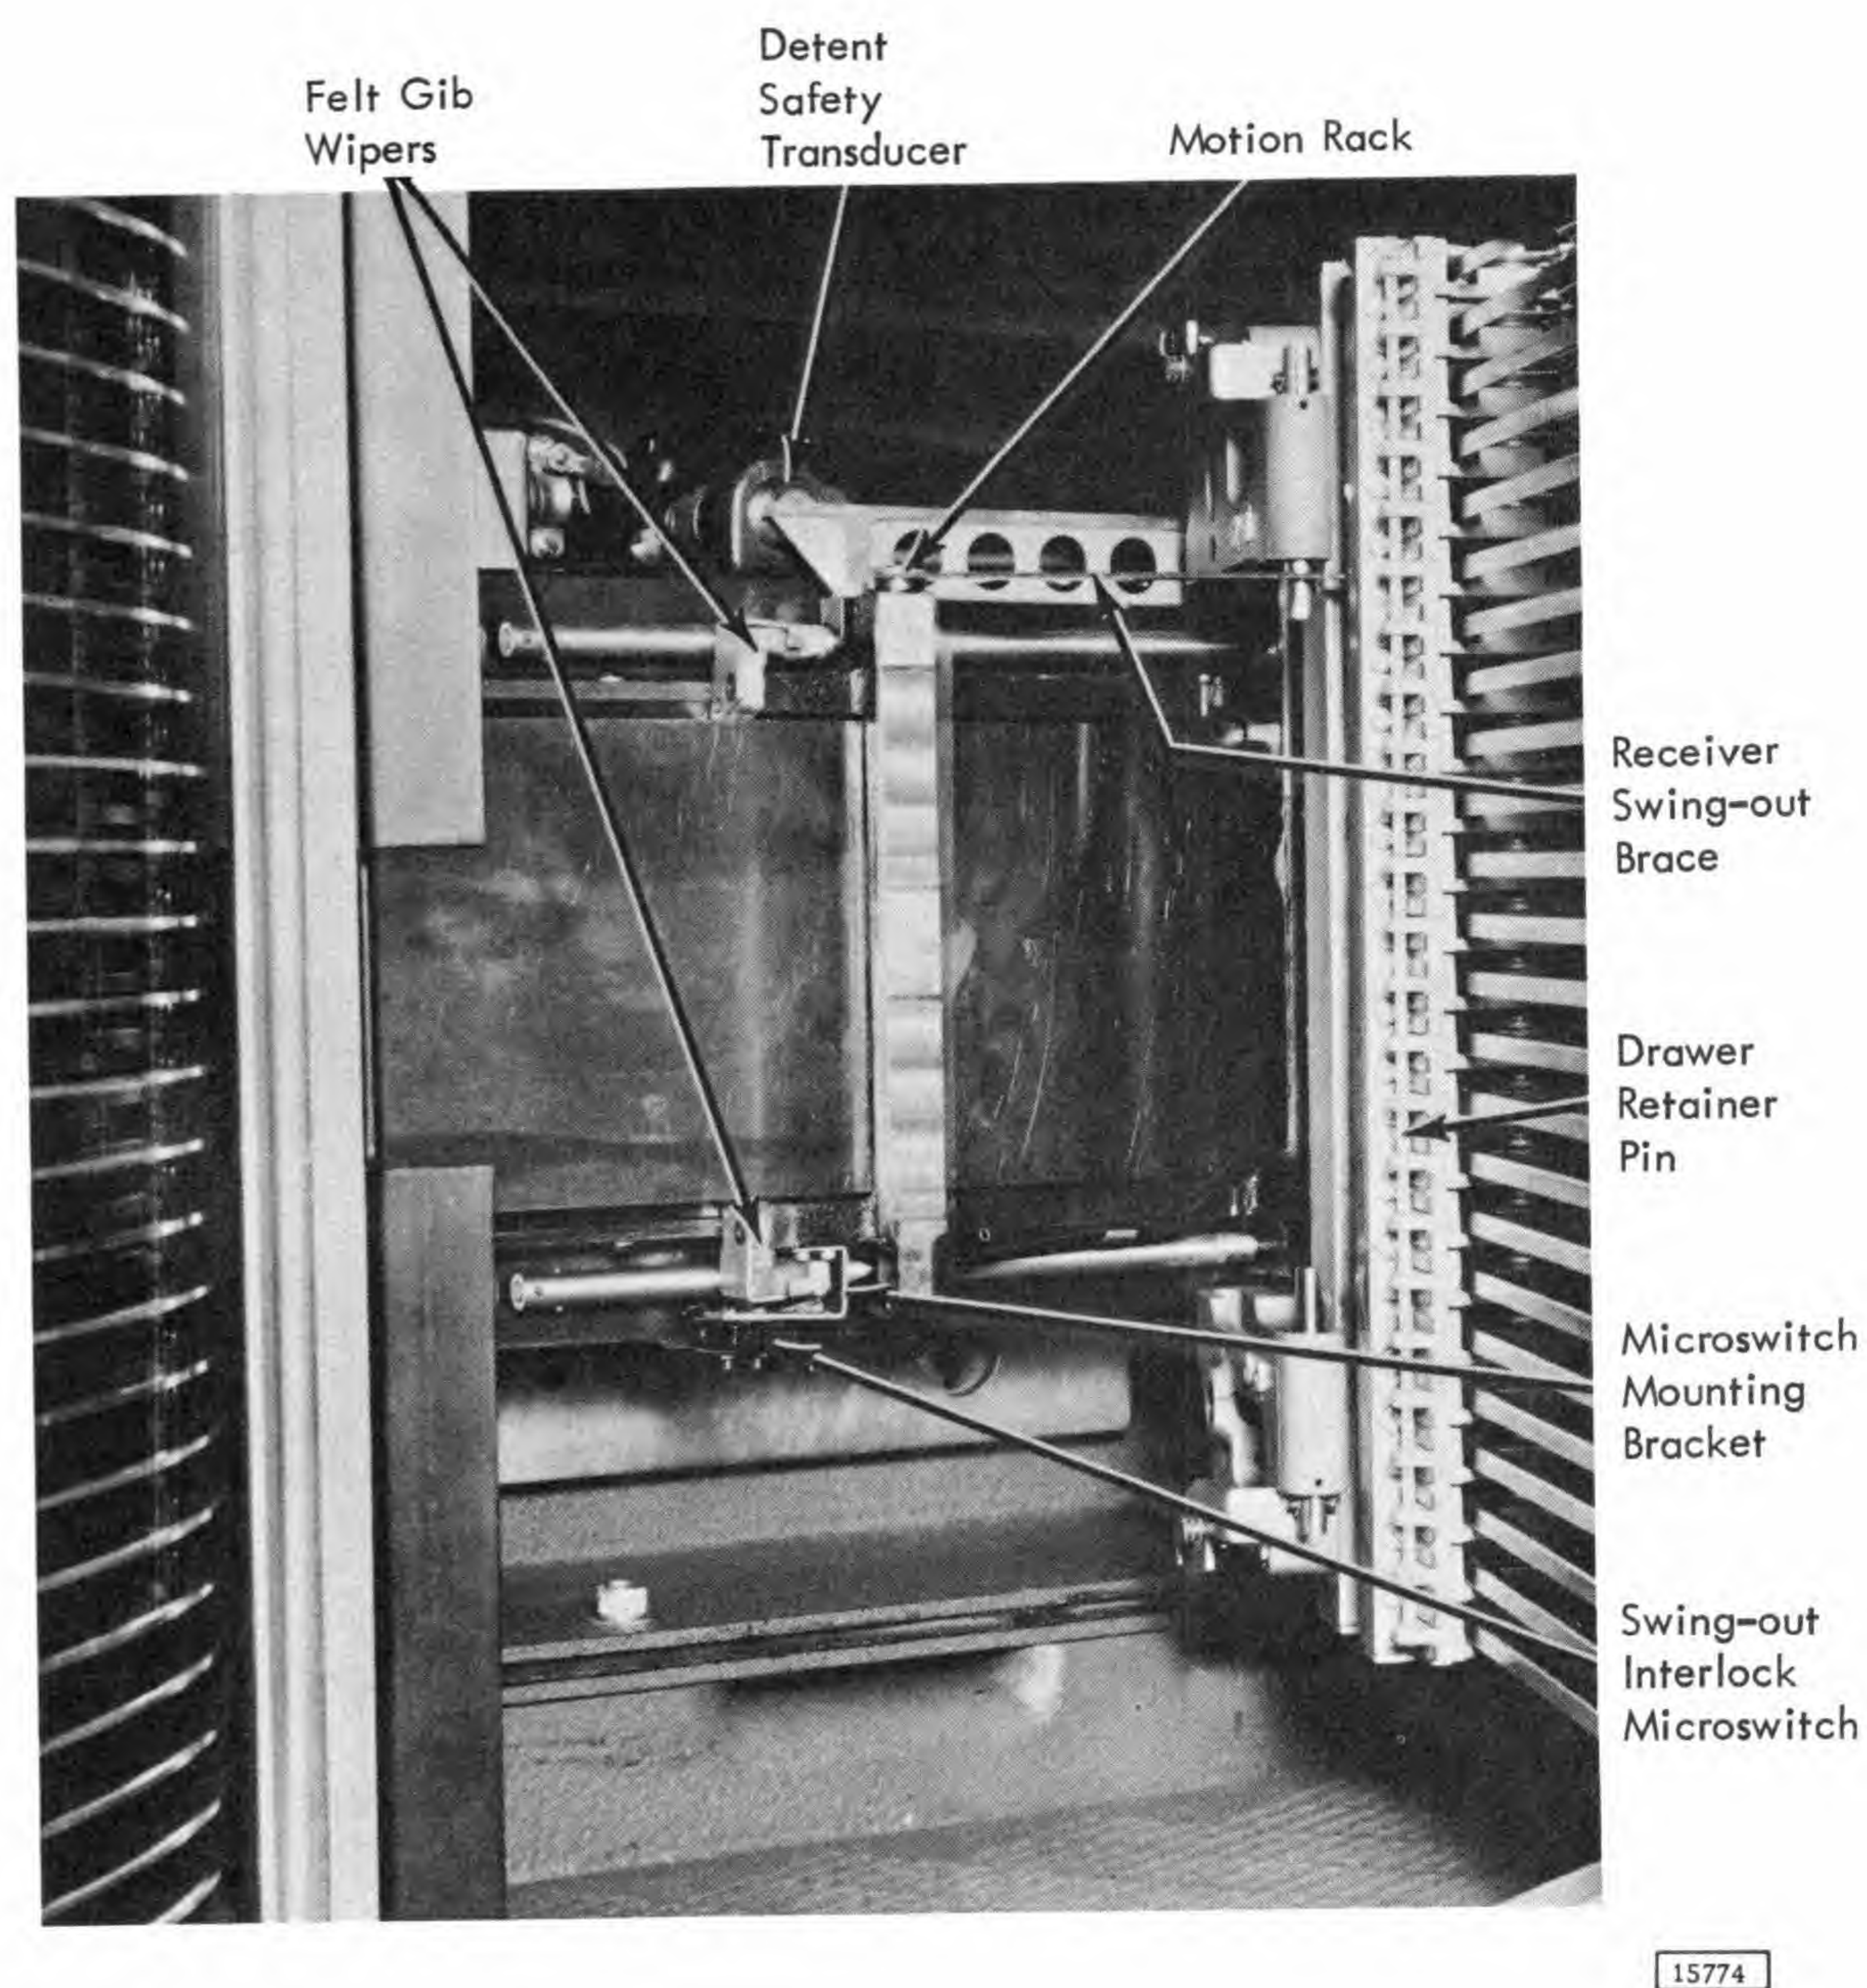

Figure 4-17. Receiver in Servicing Position
3. Remove drawer retaining rod. (Figure 4-17).